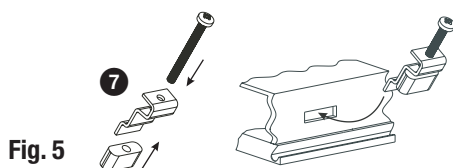

Fig. 5
- Insert and fasten the screws **Fig. 5** until the edges of the frame are flush with the panel of the control cabinet.